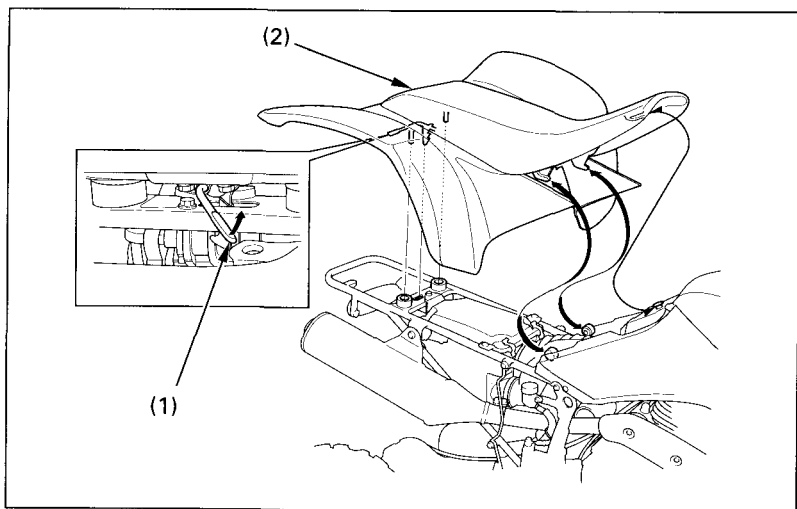

Fig. 4-32
To remove the seat (Fig. 4-32), pull up the seat lock lever (1) behind the seat and lift it up.